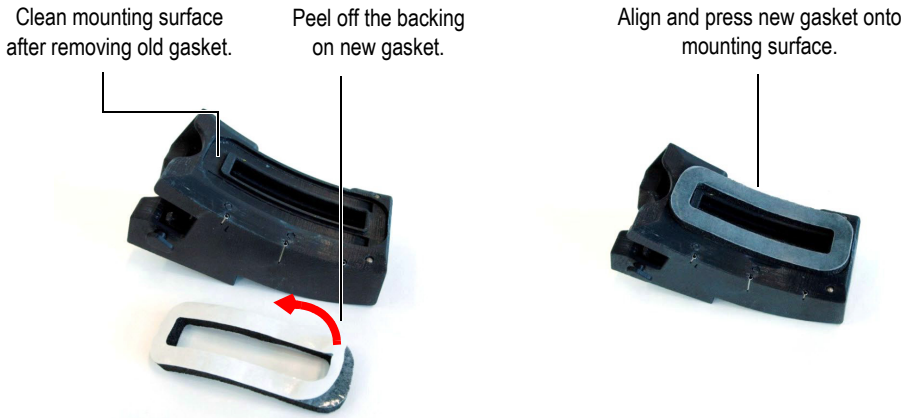

Figure 5-3 Changing the foam gasket
1. Pull off the old gasket, and, if necessary, carefully clean the mounting surface (see Figure 5-3 on page 49).